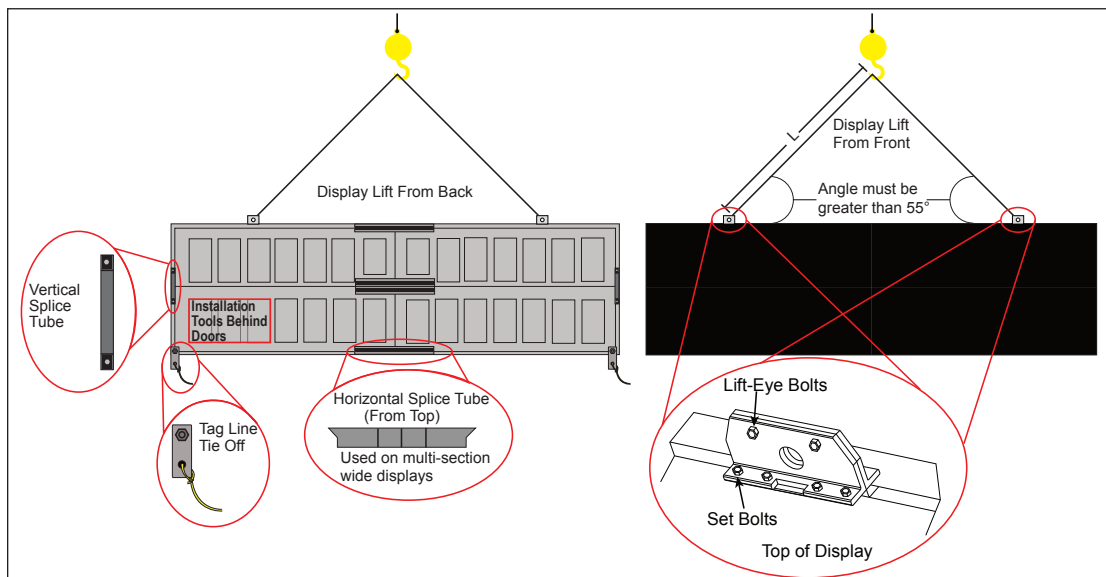

Figure 4: Display Lifting
5. Verify that the lift-eyes are installed and the lift-eye bolts and set bolts are in place. Refer to **Figure 4**. Lift eye spacing is set at Daktronics and should not be moved without the Project Manager's permission.
Note: Ensure the angle between the top of the display and the lifting strap is greater than 55°. Refer to **Figure 4**. The table shows Daktronics recommended strap lengths for common display sizes.
8. Tie tag lines to the provided tag line tie off on the bottom corners of the display. Refer to **Figure 4**.
13. If the display is two sections wide and has a vertical splice, either from the factory or on site, locate the horizontal splice tube at the splice location. Refer to **Figure 4**. This tube is shipped installed and must be secured before lifting the display. This tube also acts as a mount and can engage an upright. If needed, before lifting the display, loosen and slide the splice tube until one of the alternate alignment lines aligns with the display splice. Tighten all splice tube bolts before lifting the display.